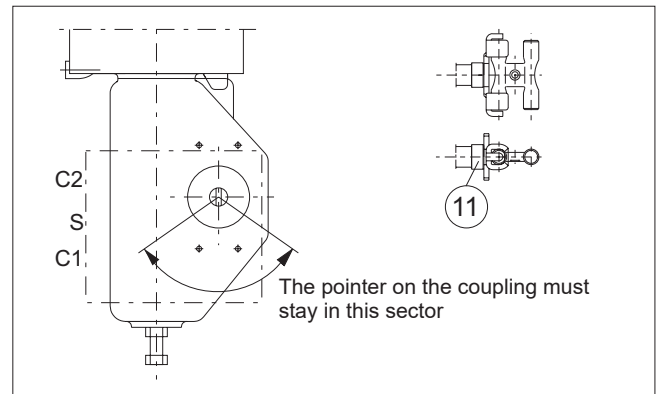

Fig. 3 Mounting on Neles actuator with VDI/VDE mounting face
- Mount the H-shaped coupling (47) to the shaft. Apply the thread-locking compound to the screw (48) and tighten firmly.
- **BJ and other single acting actuators:** mount a metal plug (53) with sealant to the C1 connection.
- Set the direction arrow of the actuator in the direction of the valve closure member and attach the ear (2) to the indicator cover in the position shown in Section 10.3. Secure the screw of the ear using e.g. Loctite and tighten firmly.
- Attach the bracket (1) to the SwitchGuard.
- Attach the bracket (1) to the actuator. The shaft coupling of the SwitchGuard must fit into the ear (2) so that the pointer is located in the position shown in Fig. 3.